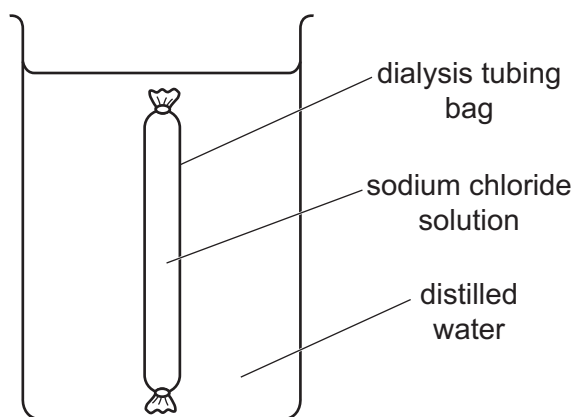

Fig. 1.6
- Each bag was weighed, immersed in distilled water and left for 1 hour, as shown in Fig. 1.6.